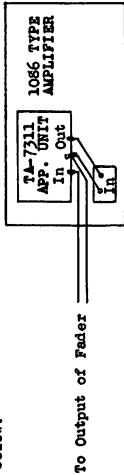

FIGURE 1
4.1 This apparatus unit consists of the apparatus and circuit shown on ASL-2818 arranged as a compact unit 4-3/4" x 2-3/4" x 4-3/4" H. When connected in the input to the 1086-A Amplifier (ahead of input terminals) the combination provides the same loudspeaker and film equalization as the A-1086-A, and is accordingly the electrical equivalent of the latter. It has the advantage that no internal modification of the 86-A Amplifier is involved, and its characteristic for Public Address or other additional use is unchanged. In cases of such P.A. or other use of the 86 type Amplifier, the TA-7311 Apparatus Unit should of course be connected in the input to the 86-A Amplifier. The TA-7311 Apparatus Unit should be connected in the output to bring the sound level to the same level as the film output of the sound system and P.A. Pick-Up to the same level, it should be inserted between the fader and the TA-7311 Unit. This is shown in Figures 1 and 2 below.